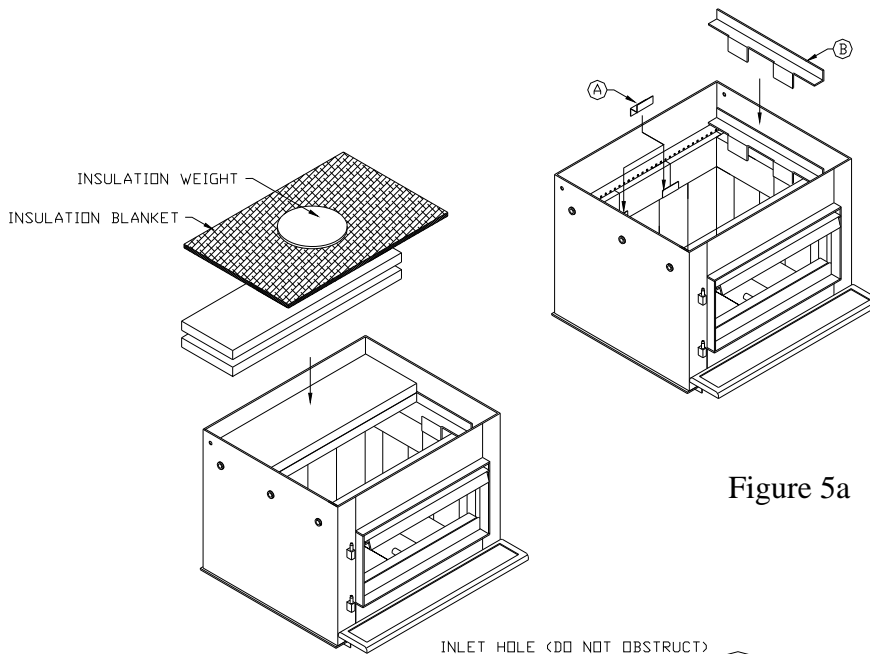

Figure 5a
- 1- Install the stainless steel brick retainers (A) on the rear centre bricks intersections.
- 2- Install the first side baffle support (B) on one side of the firebox as shown in figure 5a.